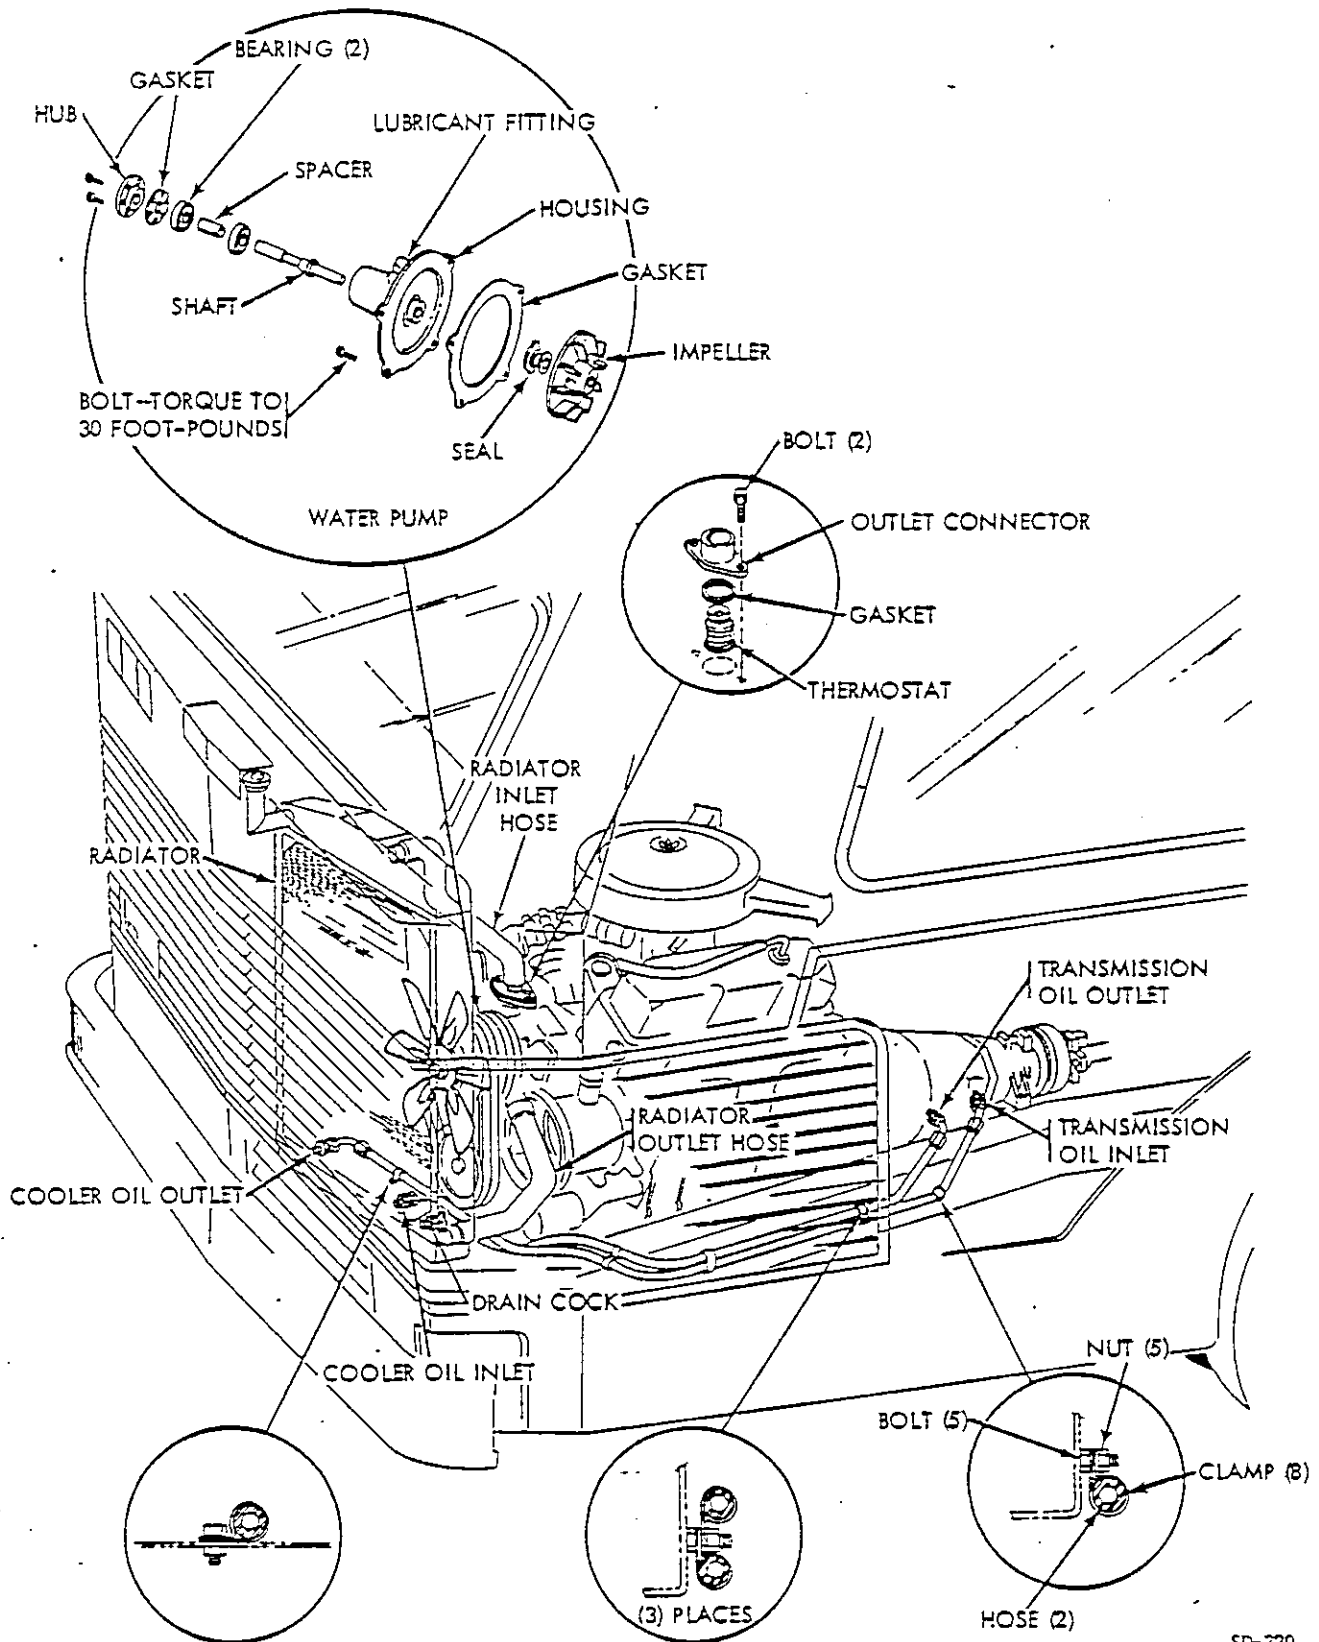

Figure 13-1. Cooling System
a. General (fig. 13-1). The coach incorporates a liquid cooling system to maintain engine and transmission temperatures within efficient operating ranges. The system consists of a radiator with an integral automatic transmission oil cooler located in the bottom tank, coolant pump, hoses, fan, thermostat, and a system of jackets and passages in the engine.
#### d. Transmission Oil Cooler Hose Removal (fig. 13-1).
#### e. Transmission Oil Cooler Hose Installation (fig. 13-1).
#### f. Fan Belt Removal (fig. 13-1).
#### g. Fan Belt Installation (fig. 13-1).